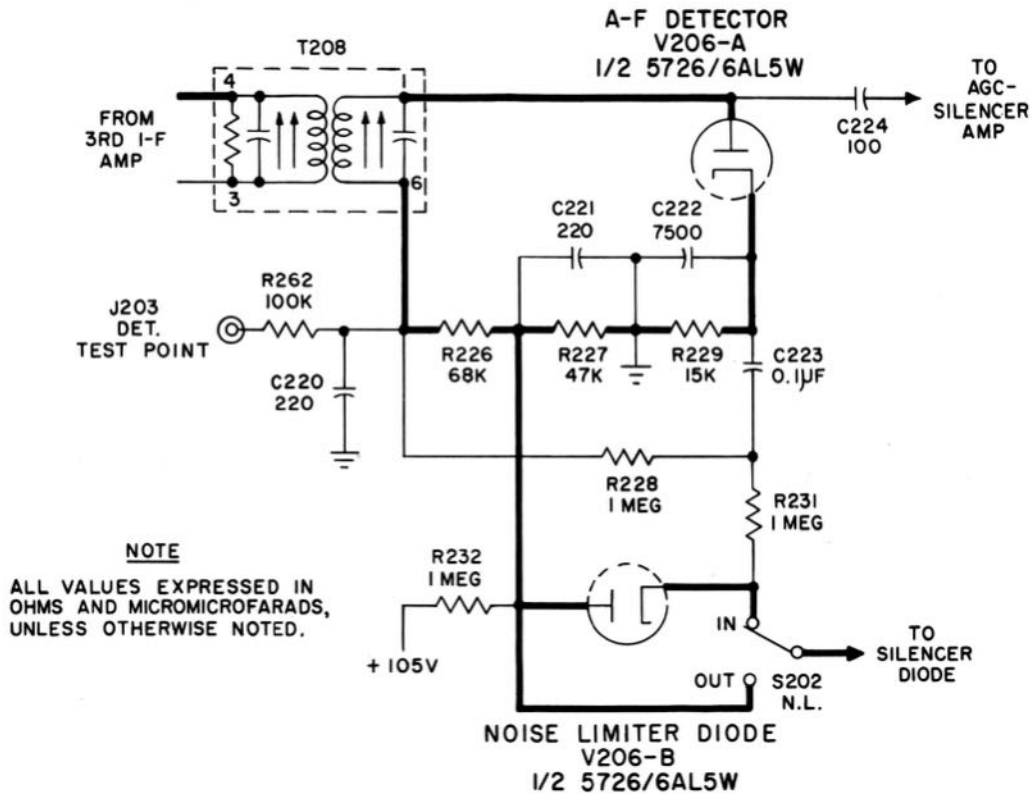

Figure 2-8. A-F Detector and Noise Limiter Circuits, Simplified Schematic Diagram
c. **AUDIO-FREQUENCY DETECTOR.**—The audio-frequency detector, V206A, is one half of a type 5726/6AL5W twin diode; see figure 2-8. The i-f signal from terminal 1 of transformer T208 is applied to the diode plate. Resistors R226, R227 and R229, connected between the diode cathode and terminal 6 of T208, constitute the diode load. These resistors are bypassed for radio frequencies by capacitors C220, C221 and C222. The audio-frequency output, obtained from the junction of resistors R226 and R227, is applied through the noise-limiter diode and the silencer diode (either or both of which can be disabled—the noise limiter mechanically and the silencer electrically) to the grid of the first a-f amplifier.
d. **NOISE LIMITER.**—Diode V206B, one half of a type 5726/6AL5W twin diode, functions as a series-type noise limiter. It is connected between the a-f detector and the silencer diode; see figure 2-8. The N.L. (noise limiter) switch S202, cuts the noise limiter in or out of the circuit as desired for operating conditions. When switch S202 is in the OUT position, the audio signal obtained at the junction of resistors R226 and R227 is applied directly to the silencer circuit; noise limiter V206B has no effect on the signal. However, when switch S202 is set at IN, the noise limiter functions as follows: